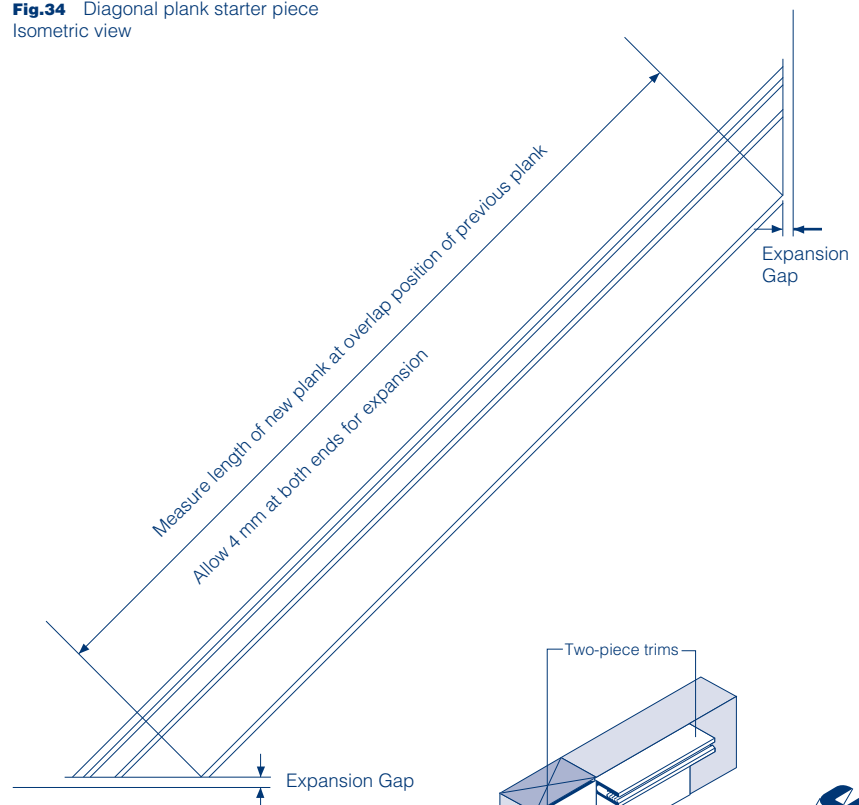

Fig.35 Cutting intermediate
- Measure and cut carefully to length and angle of mitre before fitting (Figure 35).